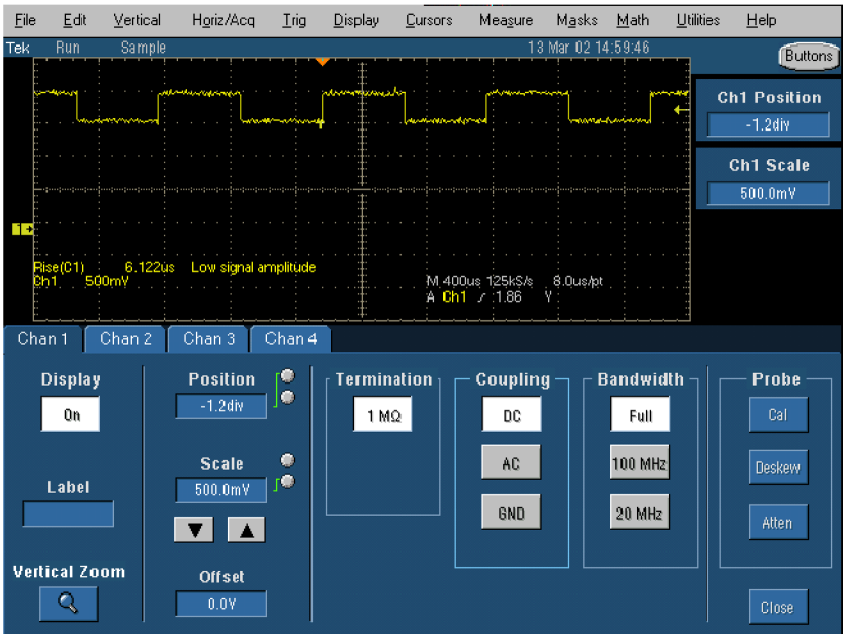

Figure 12: Typical waveform at DC Coupling
- Set Coupling to DC, and set trigger level to 50%. The resulting waveform should appear as shown. (See Figure 12.)